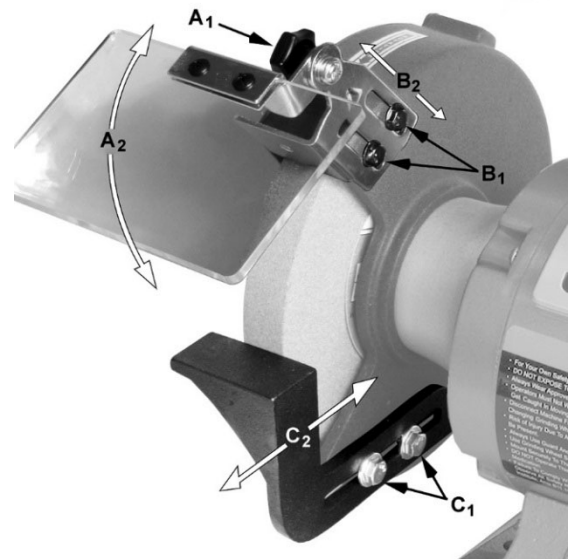

Figure 8-1: eye shield adjustment
1. Loosen lock knob (A1, Figure 8-1).
Refer to Figure 8-1.